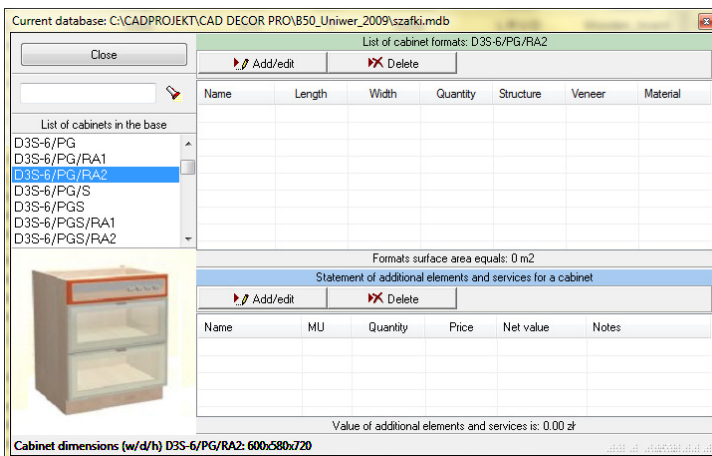
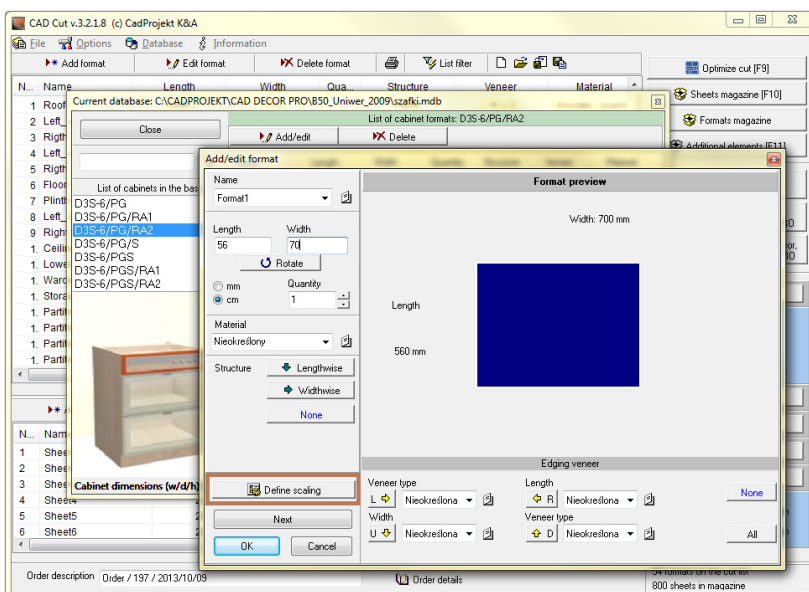

Fig. 103 – The 'current database...' window - list of cabinets available in the database
Fig. 104 – defining formats for a cabinet
- in the left part of the **'Current database...'** window you will see a list of cabinets present in the database (Fig. 103);
- at the bottom of the **'Current database...'** dimensions of the currently indicated cabinet are displayed (Fig. 103);
- you can now define the types and quantities of formats of which the indicated cabinet consists - to do it, mark the code of the cabinet on the list and click the **'Add/edit'** button in the **'List of cabinet formats'** field (Fig. 103), and then, one after another, describe the formats (give their dimensions, amount, grain structure, veneer and material) (Fig. 104);
- during defining the component formats of a cabinets, you can also define the way they will be scaled – in case dimensions of a cabinet are ever modified during inserting it into a design; the option is available under the **Define scaling** button (Fig. 104);